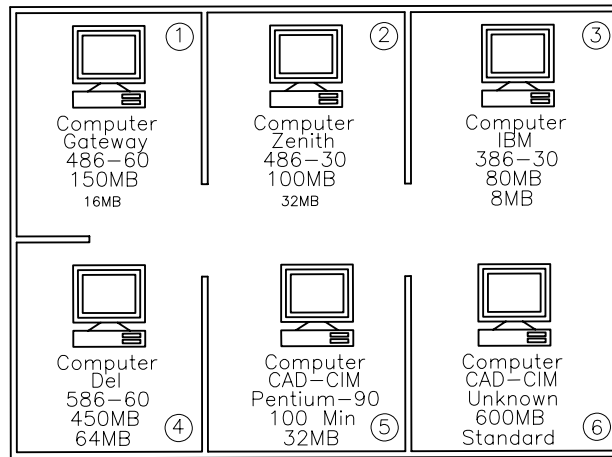

Figure 16-12 The floor plan after inserting blocks and defining their attributes
3. Similarly you can insert other blocks and define their attribute values, as shown in Figure 16-12.